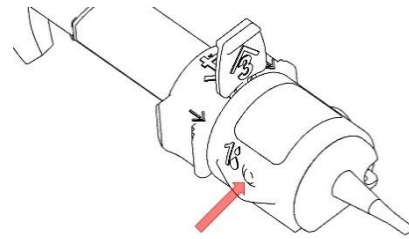

Fig. 1
3. Fully introduce the cannula (23G) of a syringe filled with viscoelastic material into the small aperture indicated with '1' (Fig. 1), maintaining a slight pressure on the cannula tip. Inject the dispersive viscoelastic solution (preferably HPMC) through the aperture. The injected quantity of visco is sufficient as soon as the two flows (drops) of the viscoelastic solution meet on top of the lens (become confluent).